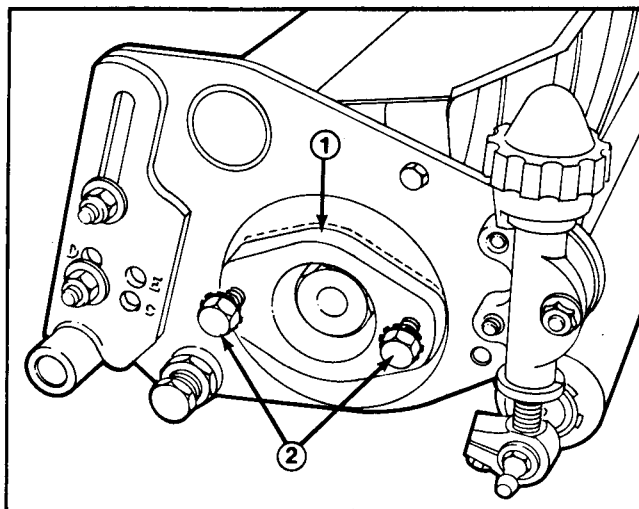

Figure 43
10. Use a soft face hammer to rotate each bearing housing slightly. Install bolts from outside of housings and turn bolts alternately against side plate to remove bearing housings (Fig. 43). Bearing housings will slip out of side plates. Reel can be removed as soon as bearing housings are disassembled from side plates.